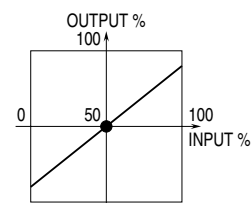

Fig. 6
- 2) With 50% input (actuator position), check that the output is approximately 50%. See Figure 6.